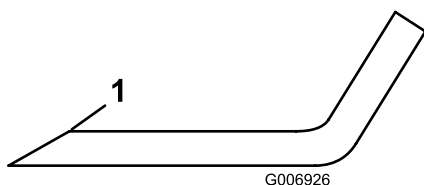

Figure 70
3. Inspect the cutting edges of all blades. Sharpen the cutting edges if they are dull or nicked. Sharpen only the top of the cutting edge and maintain the original cutting angle to make sure of sharpness (**Figure 70**). The blade will remain balanced if the same amount of metal is removed from both cutting edges.